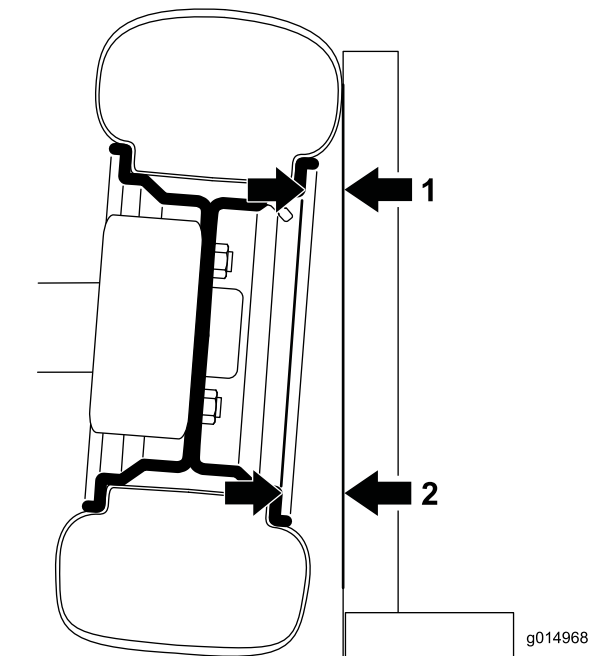

Figure 51
1. To check the camber, place a 90 degree square on the ground with the vertical edge touching the face of the tire (Figure 51).
2. Measure from the same part of the rim on the top and bottom of the tire to the square (Figure 51).